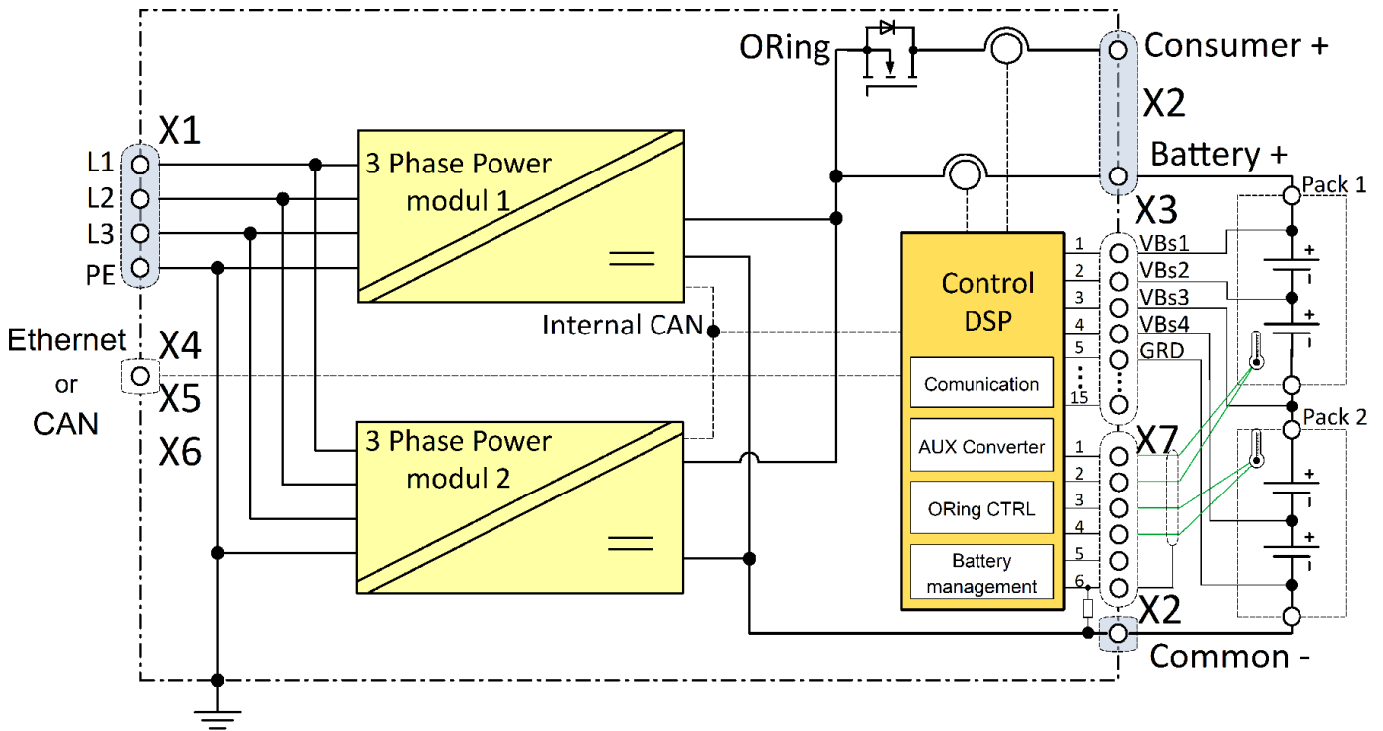

Figure 8. Connectors meaning and block diagram (thermal sensors are a part of the battery pack)
*** For a description of the connection to battery, see Figure 8